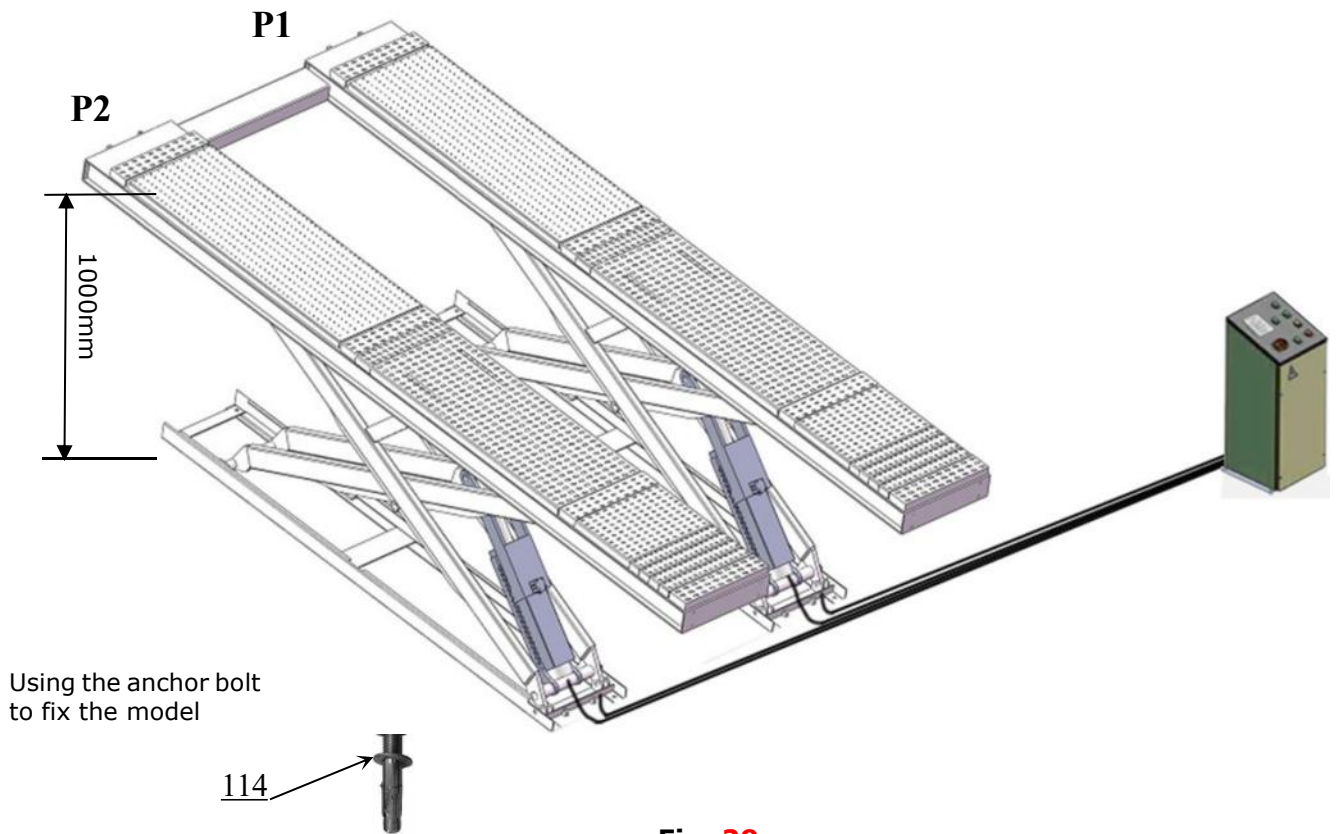

Fig. 29
1. Raise the lift to 1000mm then drill holes to install the anchor bolts (**See Fig.29**)